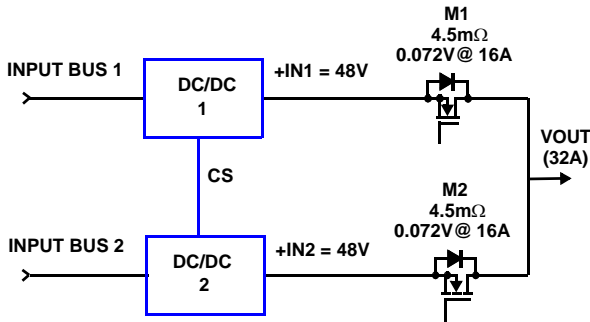

FIGURE 32. 1+1 REDUNDANT SYSTEM WITH MOSFET ORing
For example, in a 48V, 32A (1+1) redundant system with current sharing, using a Schottky diode as the ORing device (refer to Figure 32), the forward voltage drop is in the 0.4-0.7V range, let us assume it is 0.5V. Power loss across each diode:
- In the particular case illustrated in the previous example of Figures 32 and 33 with  $N = 1$ , each of the two ORing feeds has to be able to handle the full load current.